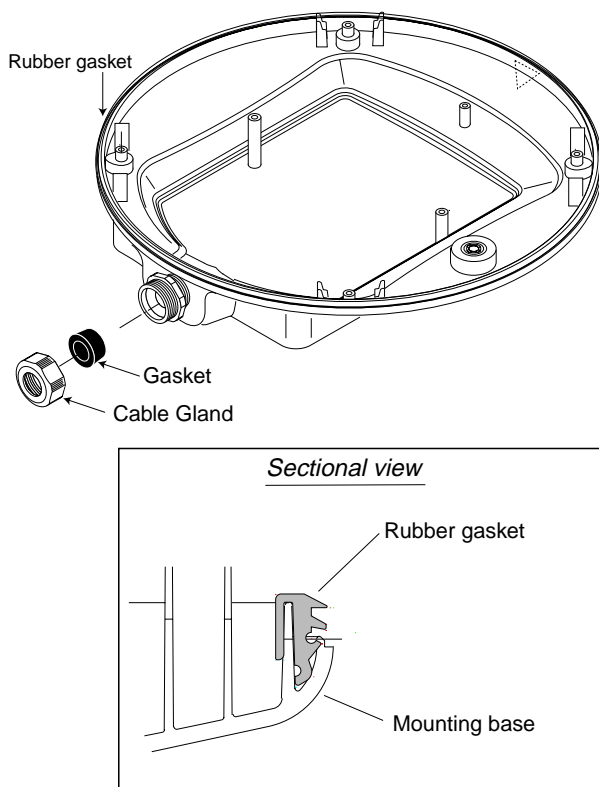

Figure 7 Antenna unit, inside view
14. Confirm that the rubber gasket is properly positioned and that the triangle mark on the radome cover is aligned with the triangle mark on the mounting base, then tighten the fixing screws for the cover. Refer to Figure 7 for positioning of rubber gasket.